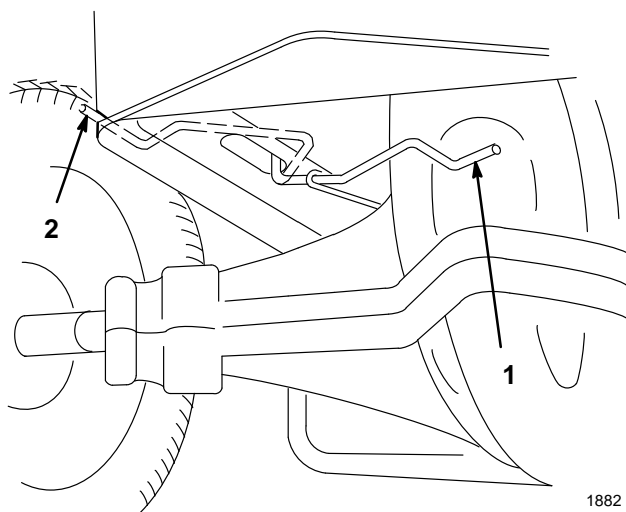

Figure 6
2. Place the drive control in the "Push" position (Fig. 6).
3. Run engine at a low idle and move traction control pedal forward for five (5) seconds then reverse for five (5) seconds. Repeat three (3) times.
4. Place the drive control in the "Operate" position (Fig. 6). Drive the tractor forward then reverse approximately five (5) feet. Repeat three (3) times.